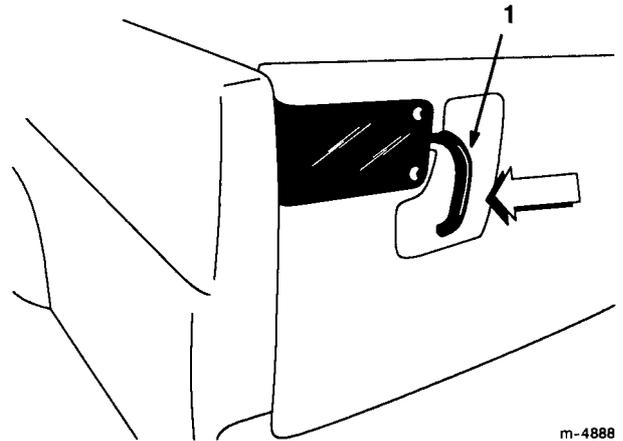

Figure 11
1. To open the tailgate latches, push the latches toward the outside of the vehicle (Fig. 11).